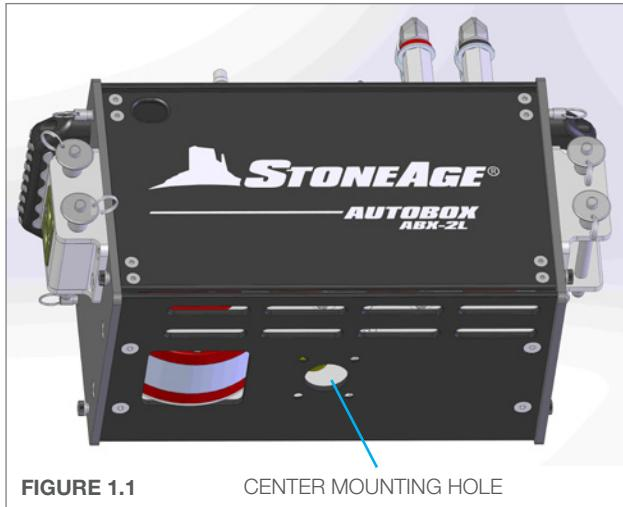

FIGURE 1.1 CENTER MOUNTING HOLE
- DETERMINE IF THE BOTTOM PLATE NEEDS TO BE CONVERTED- The latest AUTOBOX® (ABX-2L) models will have the ABX-210 Bottom Plate installed. If the AUTOBOX® (ABX-2L) already has this plate, then skip to Step 3. The older models will not have a center mounting hole, shown in **(Figure 1)**, and will need to be converted to the new plate. The new bottom plate with the center mounting hole is shown in **(Figure 1.1)**.